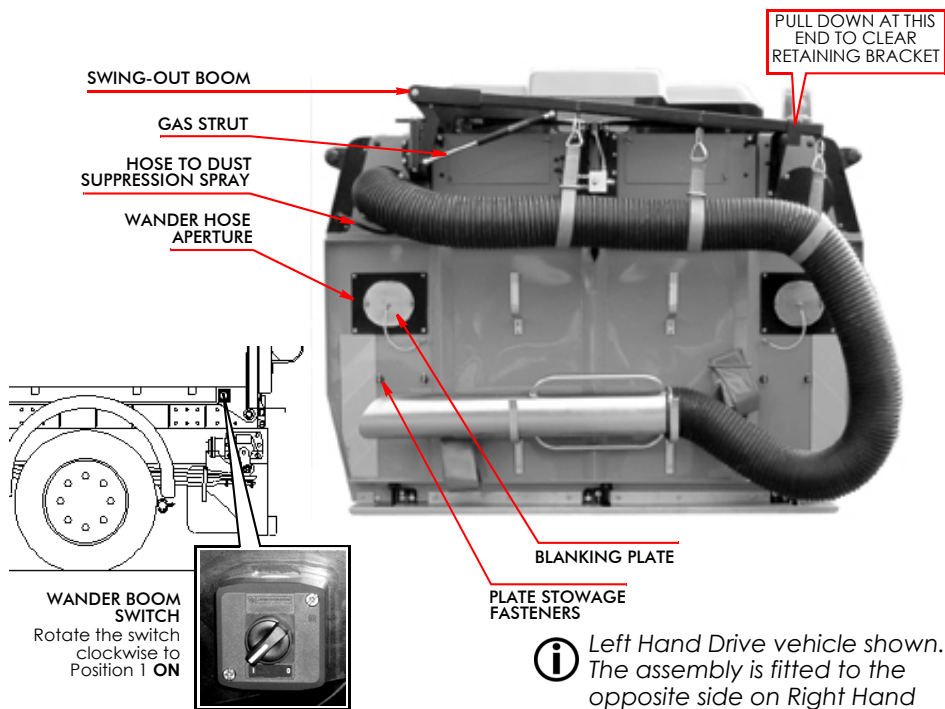

Fig. 10 The Rear-Mounted and Overhead Wander Booms
2. Demount the hose assembly from its stowage as detailed at Fig. 10, dismount the nozzle and connect it to the end of the flexible hose. Swing-out the entire assembly to the required position.
3. Operate the wander boom controls as detailed at Fig. 10), the blanking flap will open and the dust suppression spray jets will start. The wander boom is now ready for use.